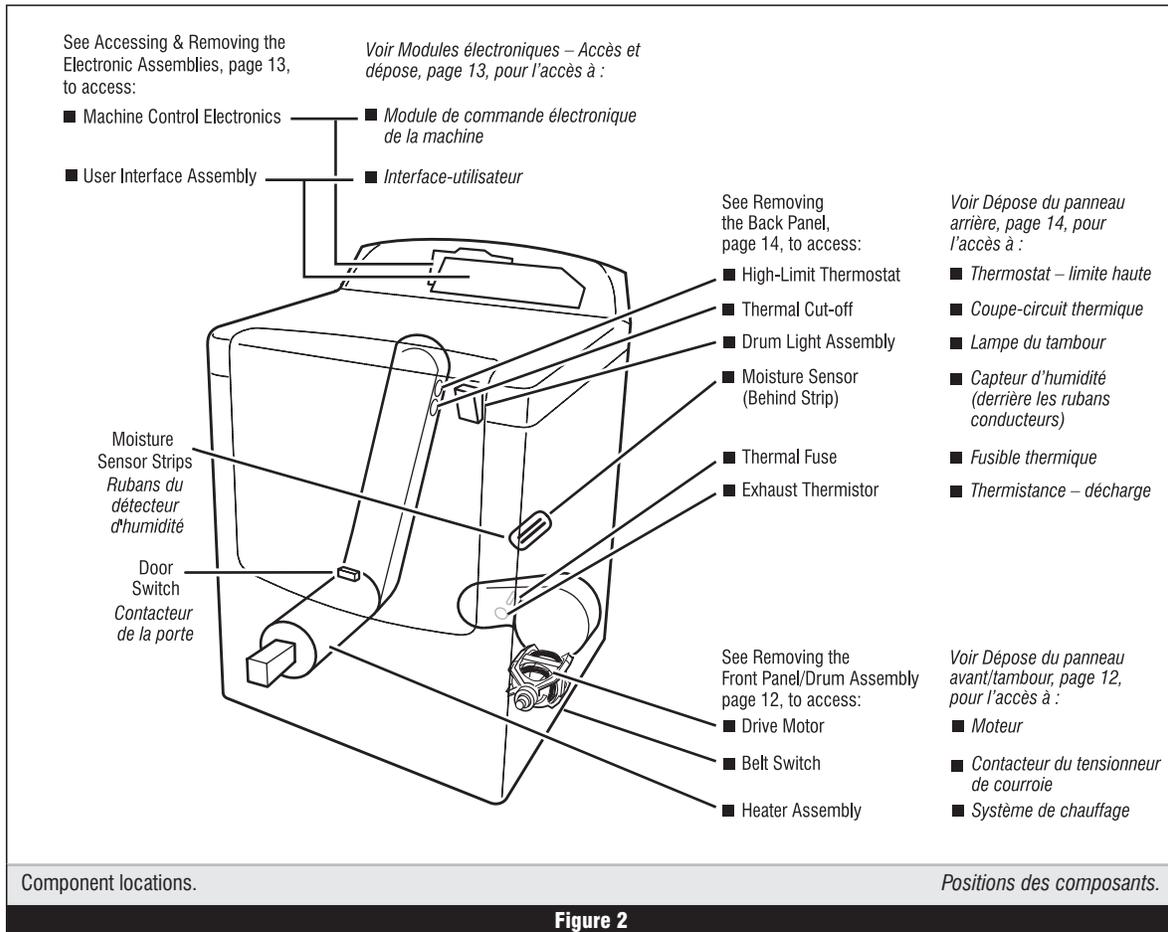

Figure 2
**TROUBLESHOOTING GUIDE** Some tests will require accessing components. See figure 2 for component locations.
**GUIDE DE DÉPANNAGE** Certains tests nécessitent l'accès aux composants. Pour la position de chaque composant, voir la figure 2.